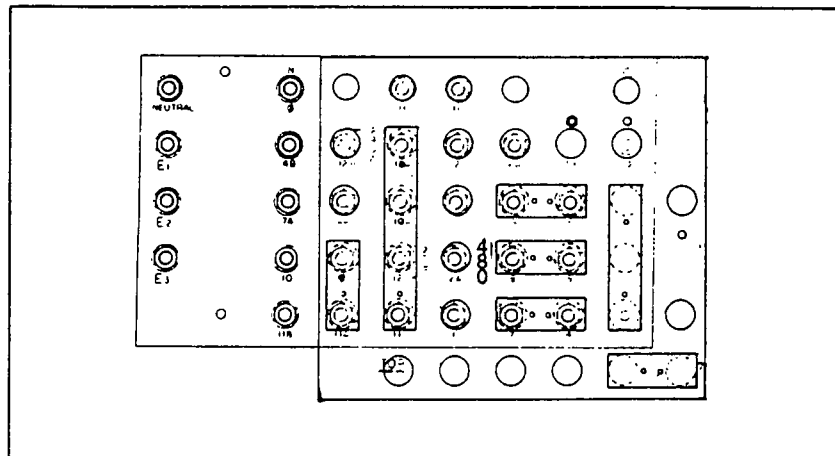

Figure 6. High Voltage Board-277/480 Volts Selected
- Figure 6 shows the high voltage board with 277/480 volts, 3-phase selected.